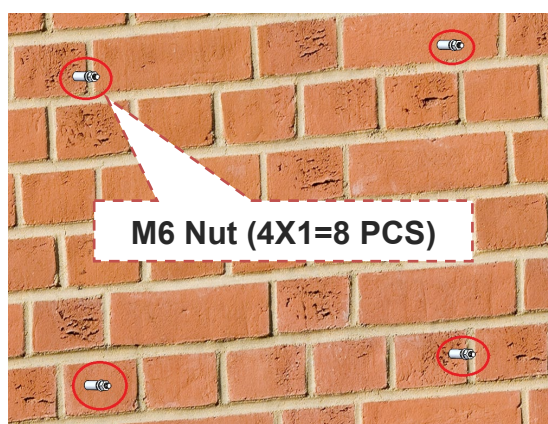

Figure 3-8
4. Drill 4 holes for the expansion bolts reference to the locating mark, put the expansion bolts into the hole and make sure it's tightly reference to Figure 3-8.